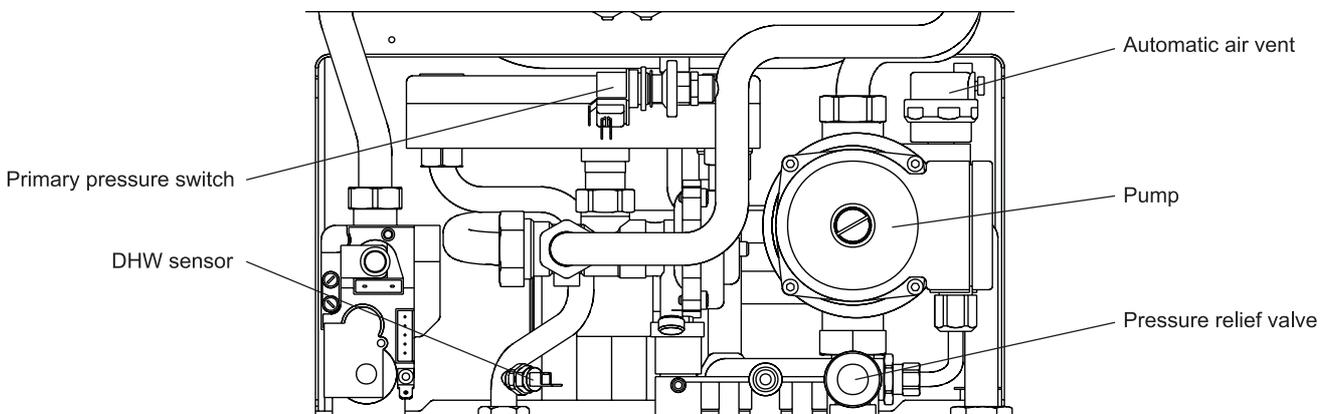

Fig. 30
- 2a. **DHW Sensor (HE CB25/33 only)** - Close the mains cold water inlet valve and open the lowest hot water tap to drain the DHW system. Disconnect the wiring and unscrew the sensor, see Fig 30. Re-assemble in reverse order with a new sensor, replacing the sealing washer if necessary.
8.22 AUTOMATIC AIR VENT - Fig. 30
8.23 PUMP - Fig. 30
8.24 PRIMARY PRESSURE SWITCH - Fig. 30
8.25 PRESSURE RELIEF VALVE - Fig. 30